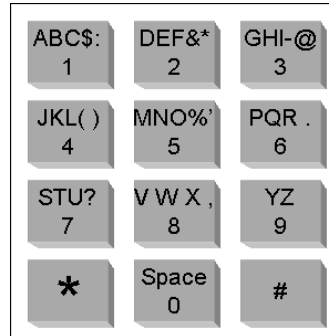

Figure 5. Alternate Keypad Functions
Refer to Figure 5 for the different characters available for each key. Press each key until the desired character displayed. Press the (#) key to accept the character and continue to the next character. When you have finished entering Wash Name, press the enter (*) key.
2. Using the (3) key to scroll forward and the (1) key to scroll back, scroll through the main menu until the "Wash Interface" option is displayed. Press the (*) key to enter.
4. Use the diagram of alternate keypad functions in Figure 5 to assist you in programming the name of your friction wash method.
5. Again using Figure 5, program the name of your touchfree wash method.